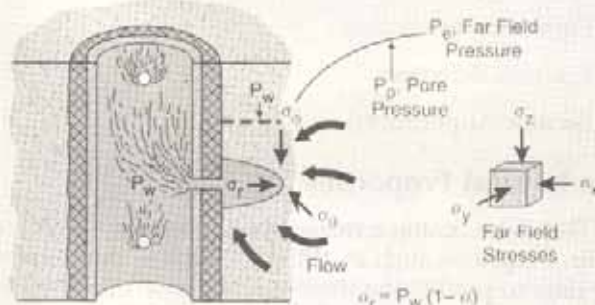

Figure 8. Sanding Model
- Sanding-predicts the maximum draw down that can be applied to a formation. Different failure models such as Mohr Coulomb and Murrell's extension to Griffith's (refer fig. 8) are used.